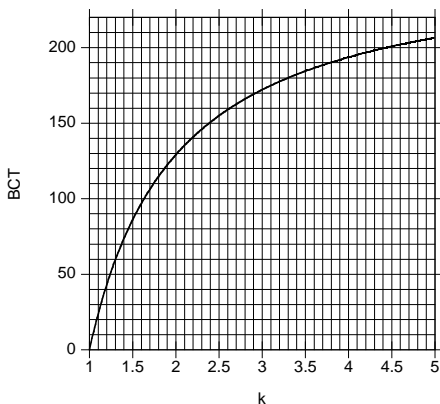

Figure 21: Relationship between the k Ratio and the Optimal BCT to Recover Linearity
Figure 21 shows the optimal BCT value for a particular k ratio.
The k ratio can be deduced from the error curve obtained with the default BCT setting (BCT = 0). Rotate the magnet more than one revolution and record the device’s output. Then plot the error curve (the output minus the real mechanical position vs. the real mechanical position) and extract the two parameters: the maximum error (E) and the position of this maximum with respect to a zero crossing a_m (see Figure 21). k can be calculated with Equation (7):